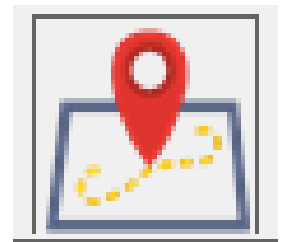

Figure 10.3
10.3. Click the button "boundary engraving range" (figure 10.3), the laser device of the engraving machine will automatically turn on the low light, and find edges according to the set engraving size of pattern.